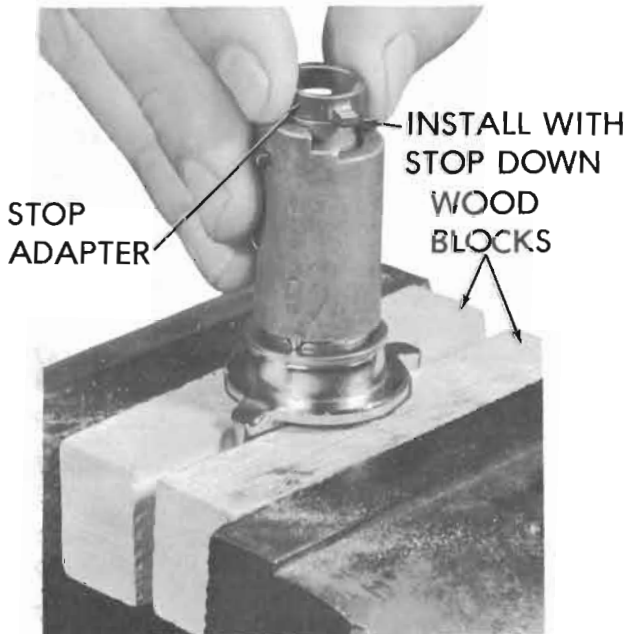

Figure 00-6 Installing Stop Adapter on Lock Cylinder
4. Place assembled ignition lock assembly into vise with wood blocks to protect finish. Place stop adapter on lock cylinder with stop positioned down. See Figure 00-6.